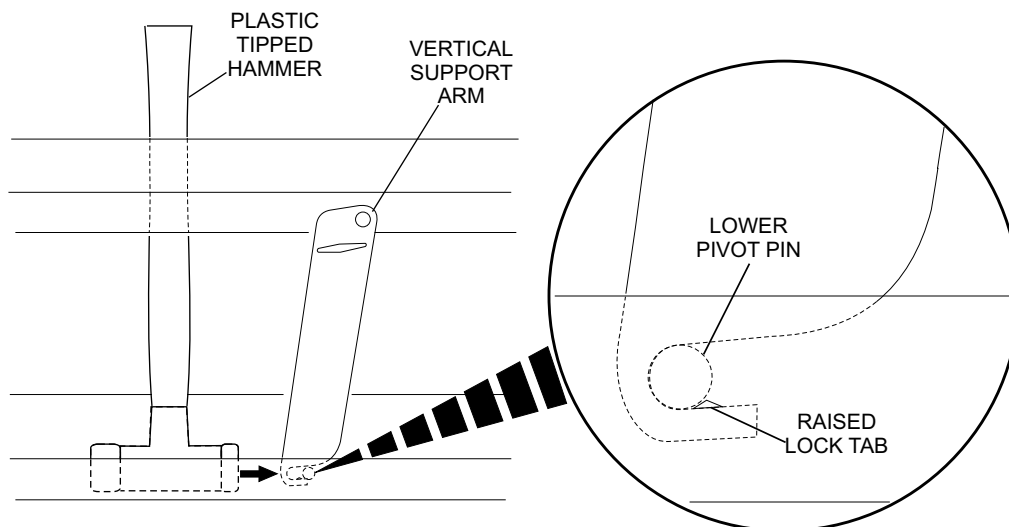

Figure 13
18. Reinstall the down lane rails using a plastic faced hammer, firmly tap each vertical support onto the pivot pin in the gutter. Refer to *Figure 13*.